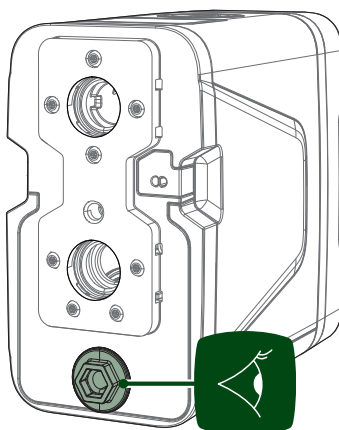

Fig. 14 Drain cap
7. fully drain the pump by carefully unscrewing and removing the drain cap (see **Fig. 14 Drain cap**). If the fill cap (NRV) is removed or sufficiently loosened during the operation, see **Fig. 10 Filling – Correct position of NRV cap**, the pump and the entire delivery duct will drain more easily;